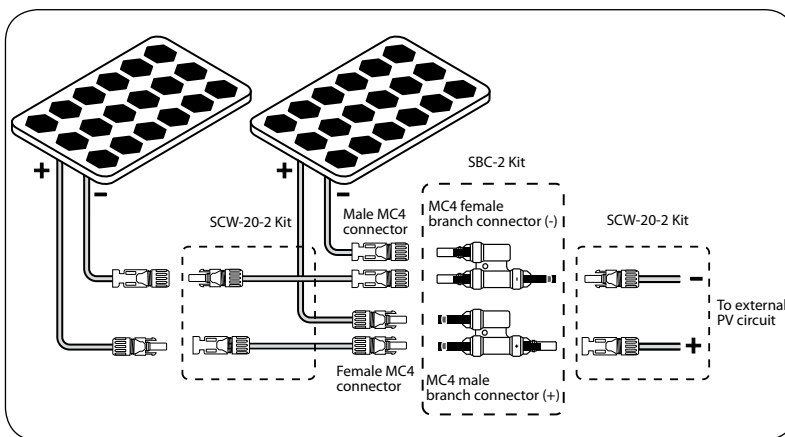

Fig. 9.2. Connection solar modules in parallel with additional module.
4. Complete the connections as shown in Fig. 9.2.